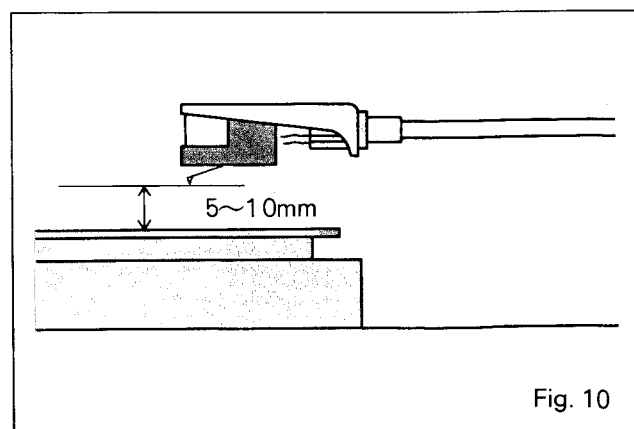
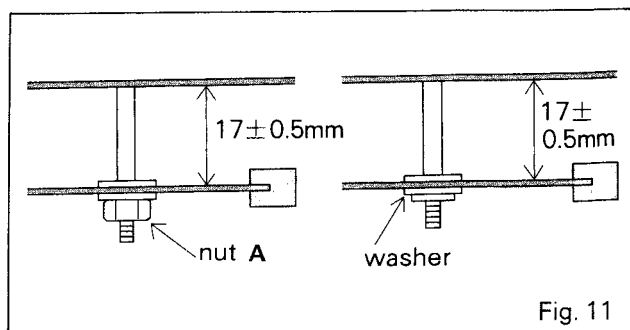
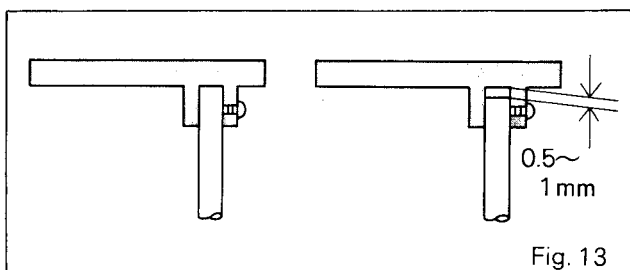

Fig. 10
Fig. 11
Fig. 13
Adjust the height from the record surface to the stylus point in the following order so that it conforms to the dimensions shown in Fig. 10 during auto return:
- (a) Turn the nut **A** of the return plate support and adjust the mounting dimensions of the return plate. For the fixed type, insert a plain washer ($4.7 \phi \times 10 \phi \times 0.5 t - 0.3 t$) and then make this adjustment (Fig. 11).
- (b) When the tone arm reaches the position shown in Fig. 13 in auto return operation, stop the rotation of the turntable (turn off the power) and measure the gap between the stylus point and record surface.
- (c) If the gap is not within the dimensions specified in Fig. 10, turn the nut **A** in Fig. 11 and make another adjustment.
- (d) If the gap between the record surface and stylus point does not yet fall within the dimension specified in Fig. 10, return the nut A, in Fig. 11 into the original position, slightly loosen the arm support attaching screw, fix the arm support about 0.5 – 1 mm higher, and make gap adjustment as specified in Fig. 13.
(2) Manual Up